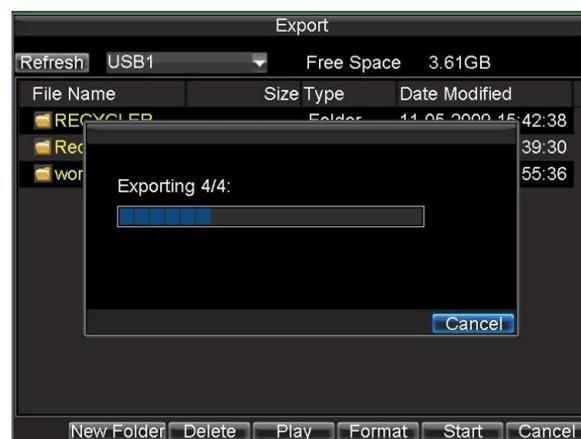

Figure 4. Backup Progress
6. Click **Start** to begin backup process, shown in Figure 4.